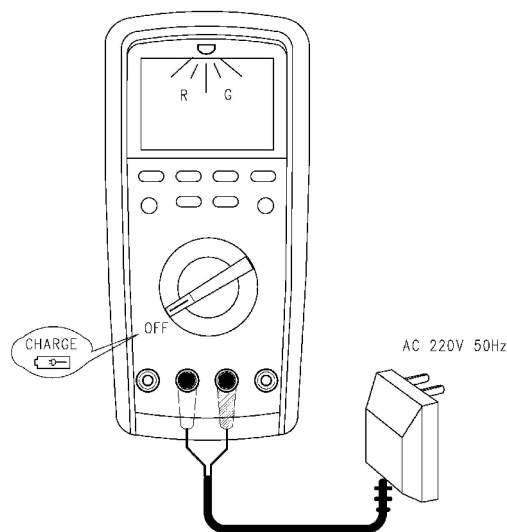

Figure 14
* Charging internal lithium battery: (see Figure 14) (applicable to UT171B/C only) connect the charging adapter provided for accessories in accordance with the figure, to charge the internal lithium battery. In the mode of charging, a red indicator alert will be emitted on top of the instrument, which turns green when the charging voltage reaches the full value, and then the instrument will automatically cut off the charging circuit as prompt for the completion of the charging.